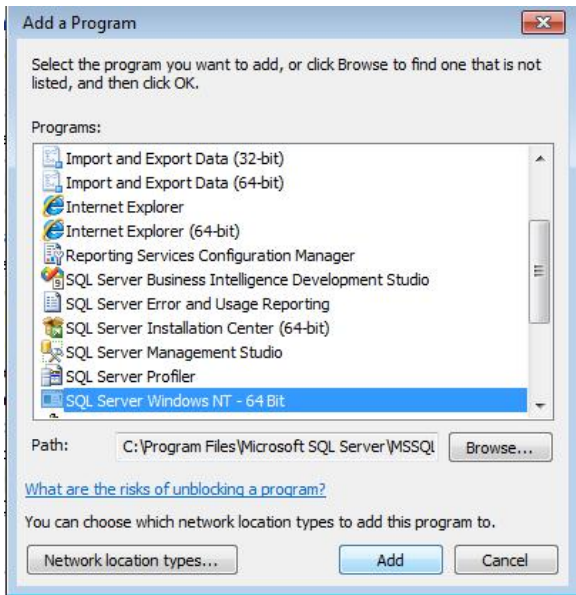

Fig.1.25 Add a Program
(12) Click “Add” button to add SQL Server Windows NT-64bit to “Allow Programs”(see Fig.1.25).